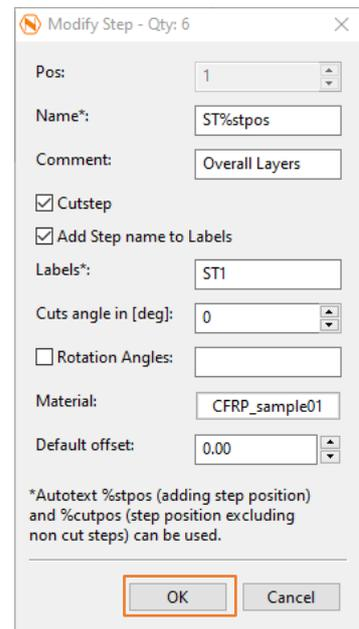

Figure 232
- Nice, now we have assigned the correct material to our first 6 steps. Confirm with **OK** (Figure 232).